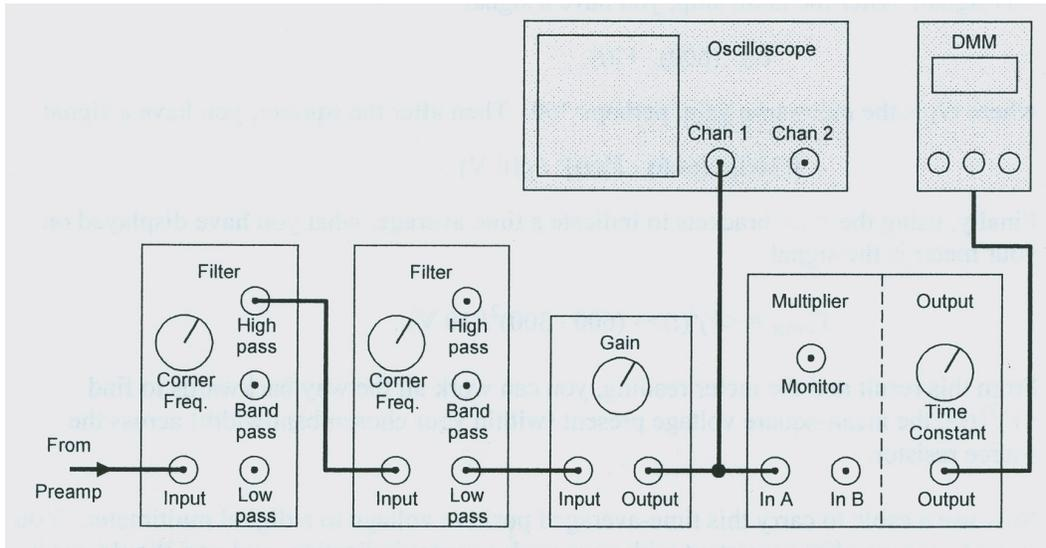

Figure 2: Connection Diagram
1. Make connection as shown in figure 2.